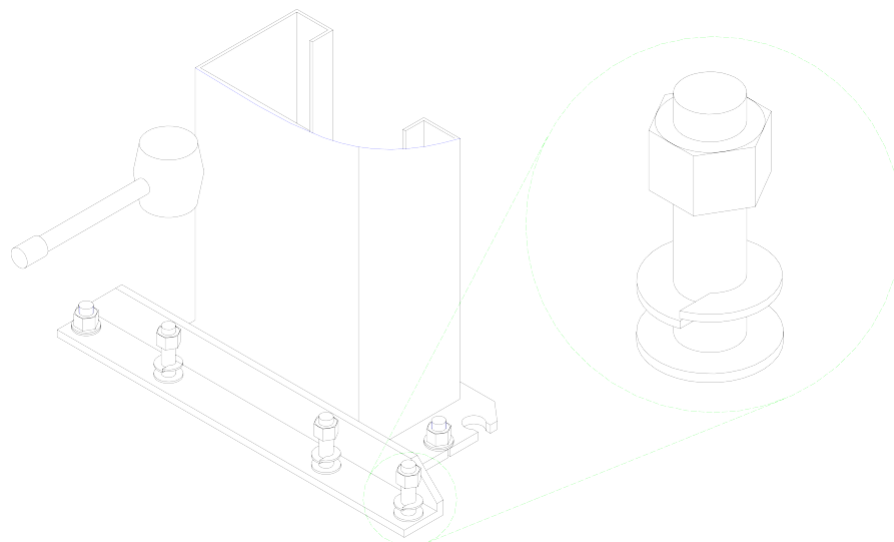

Figure 8
- E. Assemble the washers and nuts onto the anchor bolts. Thread the nuts onto the anchor bolts where the tops of the nuts are just above the top of the bolts, figure 8. Using a hammer, carefully tap the anchor bolts into the concrete until the washer rests against the baseplate. **Do not damage the nuts or threads.****